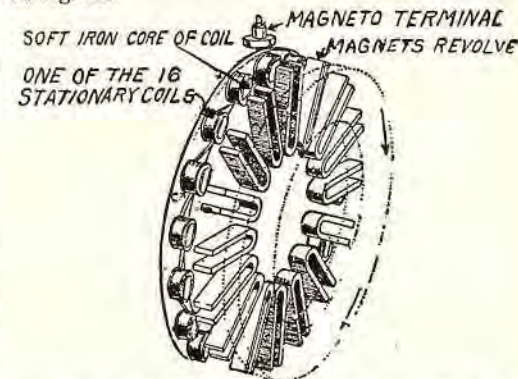

Fig. 23. Illustrating how the permanent magnets revolve in front of the coil cores. The magnets are within 1/32" of the coil core.
There are 16 permanent magnets, but instead of being placed over the pole pieces and the armature being made to revolve between them, as in the "armature-type" magneto, the magnets are attached to the fly wheel by means of non-magnetic studs and are made to revolve within 1/32" in front of the coil cores (C) (Fig. 23).
Note. Fig. 23 shows magnets separated, as if separate horse-shoe magnets, as an explanation as to how they revolve in front of the coil cores. The magnets are placed close together, as shown in Fig. 22.